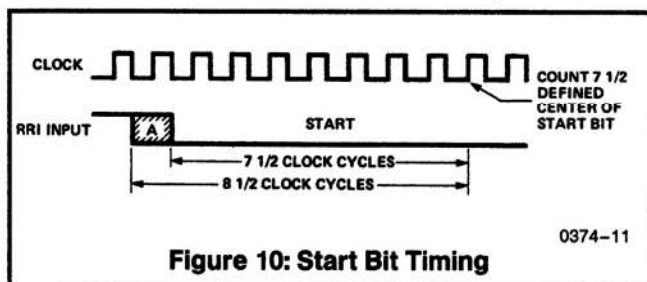

Figure 10: Start Bit Timing
The receiver uses a 16X clock for timing. (See Figure 10.) The start bit (A) could have occurred as much as one clock cycle before it was detected, as indicated by the shaded portion. The center of the start bit is defined as clock count  $7\frac{1}{2}$ . If the receiver clock is a symmetrical square wave, the center of the start bit will be located within  $\pm\frac{1}{2}$  clock cycle,  $\pm\frac{1}{32}$  bit or  $\pm 3.125\%$ . The receiver begins searching for the next start bit at the center of the first stop bit.